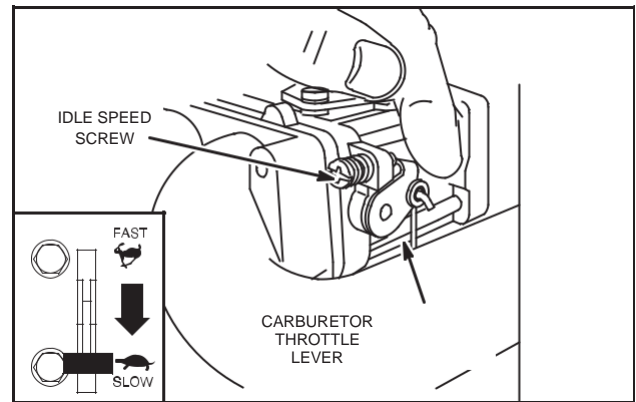

Fig. 25 - Adjust Idle Speed
2. Hold throttle lever against idle speed adjustment screw and adjust idle speed to 1200 RPM, Fig. 25. Release throttle lever.